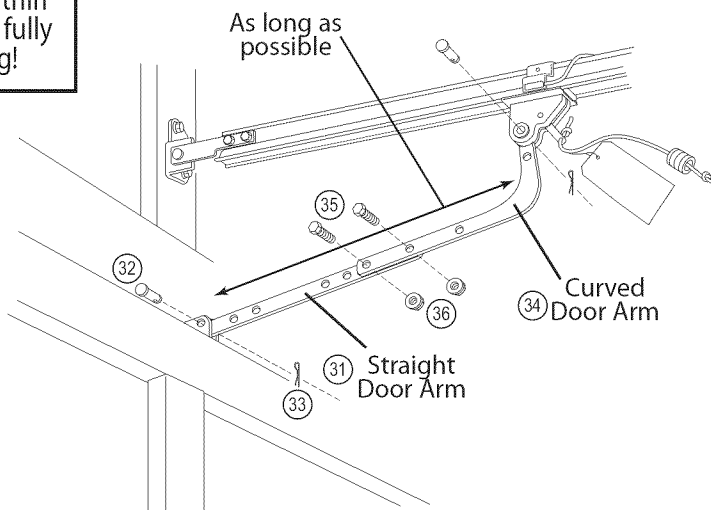

Figure 24 Assemble Arms (ONE-PIECE)
- A** Attach Straight Arm to Door Bracket with Clevis Pin and Cotter Pin (**Figure 24**).